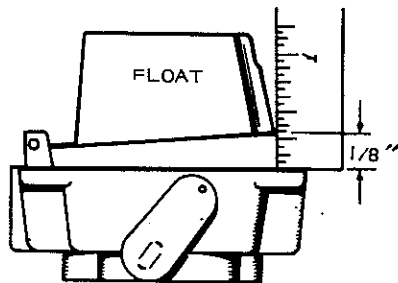

FIGURE 7-20. FLOAT ADJUSTMENT
2. Invert float assembly as shown in Figure 7-20.
3. If it is necessary to reset float level, bend float tangs near pin to obtain a 1/8-inch (3.175 mm) clearance, Figure 7-20.